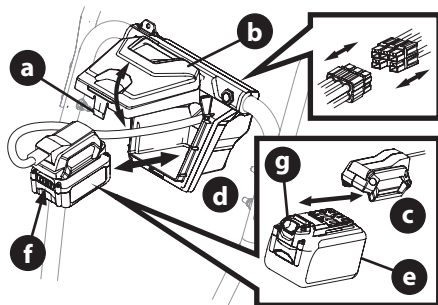

Figure 53
1. Installing the battery pack (Figure 53):
NOTE: If necessary the battery adapter can be disconnected from the battery start wiring harness (Insert, Figure 53).
2. Removing the battery pack (Figure 53):